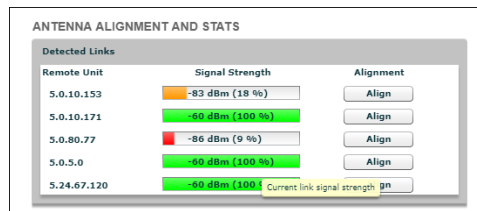

Figure 27. Configurator GUI (Antenna alignment and stats dialog)
- The **ANTENNA ALIGNMENT AND STATS** window will be shown (Figure 27 (page 67)).